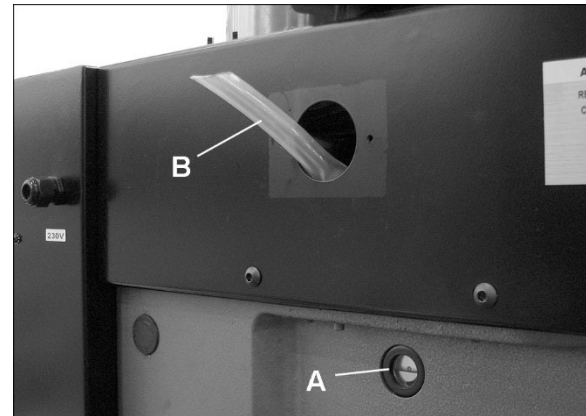

Figure 10-1
- a. Periodically check oil level in sight gauge (A, Figure 10-1).
- c. To add oil, remove oil fill tube cover plate. Pull fill tube out of hole in head cover (B).